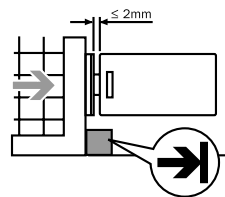

Figure 2: Mounting
- ▶ Fit an additional stop for moving parts of the guard (see figure 2).